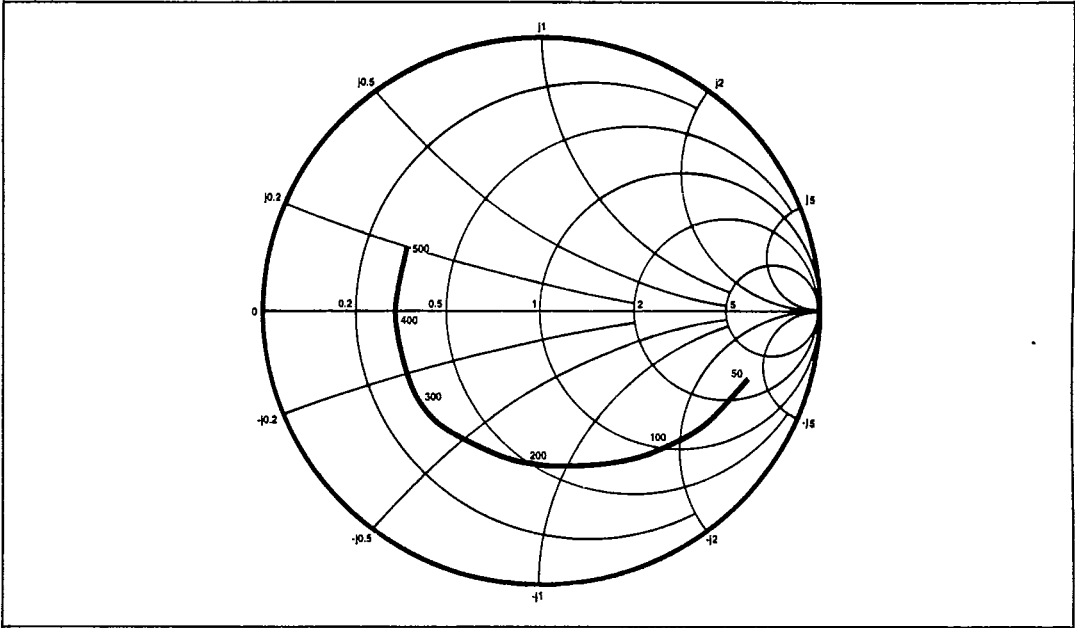

Fig.5 Typical input impedance. Test conditions: supply voltage -5.2V, ambient temperature 25°C, frequencies in MHz, impedances normalised to 50 ohms.
- 6. Input impedance is a function of frequency. See Fig. 5.